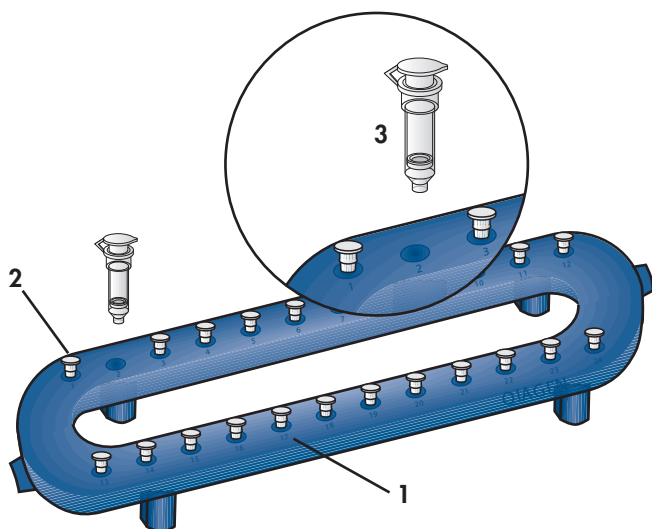

Figure 7. QIAvac 24 Plus. Setting up the QIAvac 24 Plus with QIAprep®, QIAquick, MinElute, or RNeasy® Mini Spin Columns.
- 4a. QIAvac 24 Plus (see page 33, and Figure 7):**